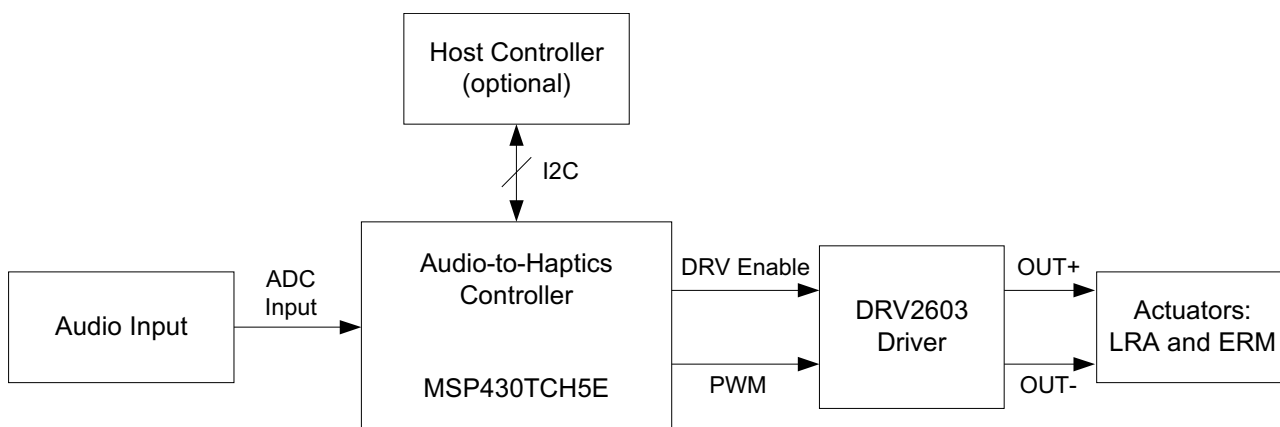

Figure 3. Typical Application Using MSP430TCH5E Device as Audio-to-Haptics Controller
- Application consoles where the MSP430TCH5E device is used as an Audio-to-Haptics controller that converts the audio input to respective haptics effects. See Figure 3.